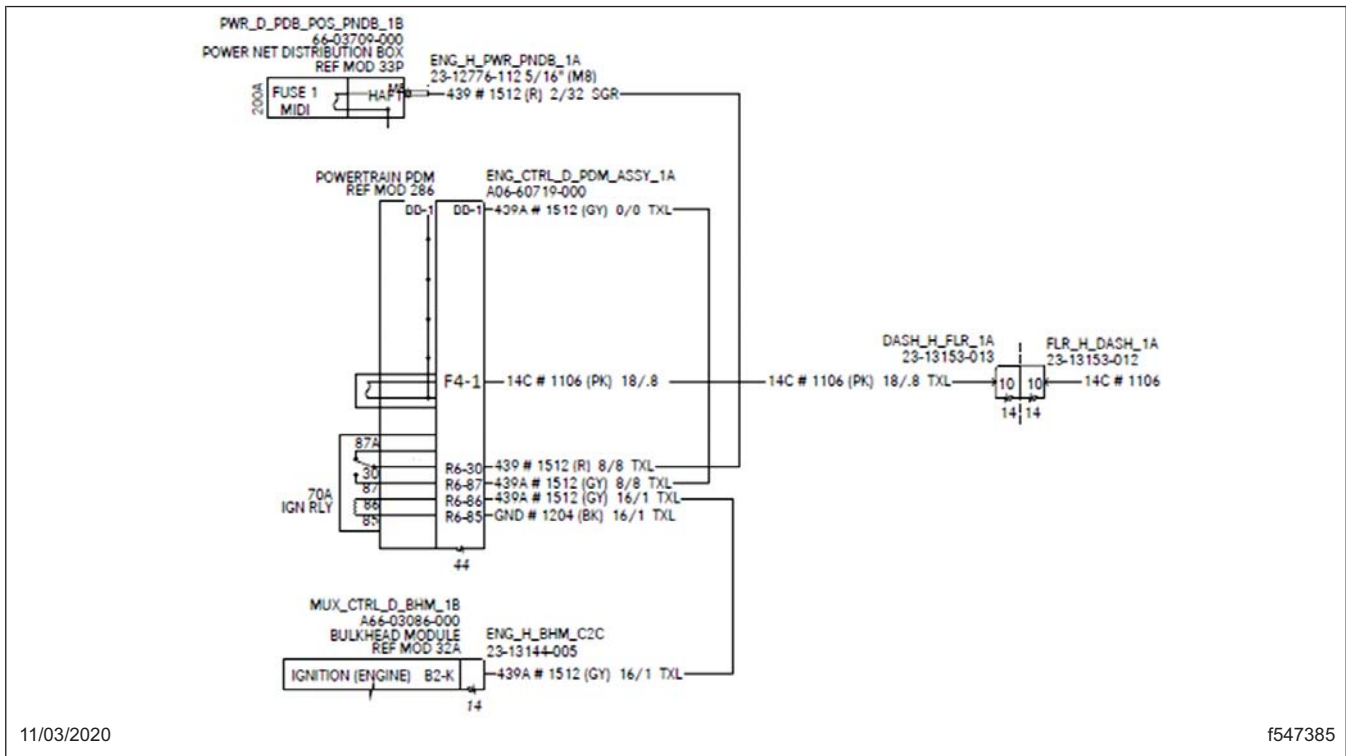

Fig. 8, Completed Modification of Circuit 14C Overlay
7. See Fig. 8 for a view of the completed modification. Note that circuit 14C now originates from the PTPDM fuse 4 to supply constant 12 volts during cranking.